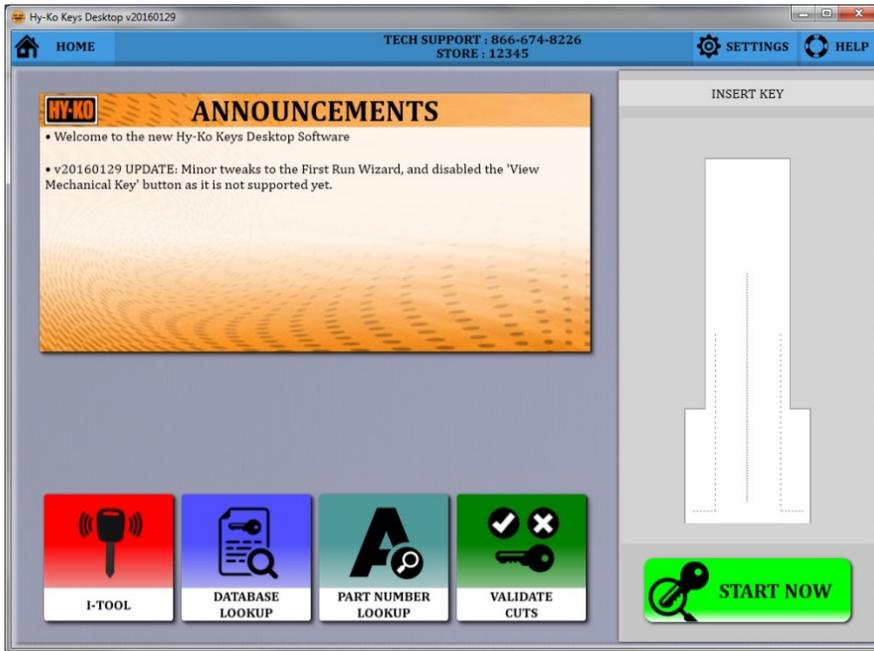

fig. 52
- To scan a key you want to start on the Home Screen. If the software is not on the Home Screen click **‘HOME’** in the upper left corner of the screen (see fig. 52).